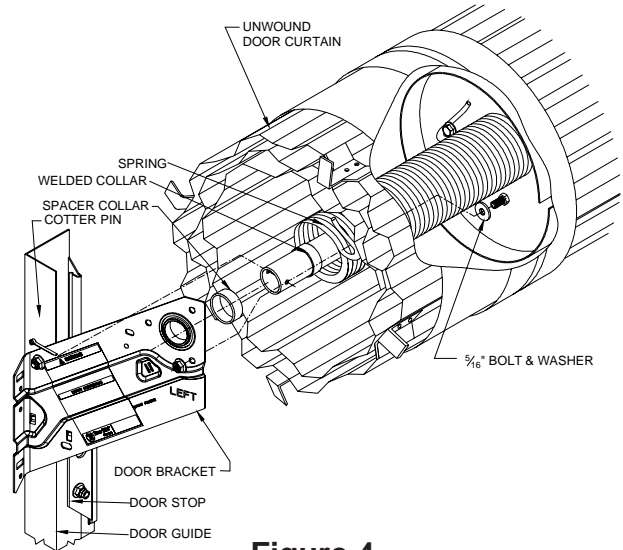

Figure 4.
4.6 Slide the spacer collar onto the axle then slip the axle ends through the bearings in the door brackets. Install a cotter pin through the hole punched in each axle end to keep the door brackets in place. See Figure 4.